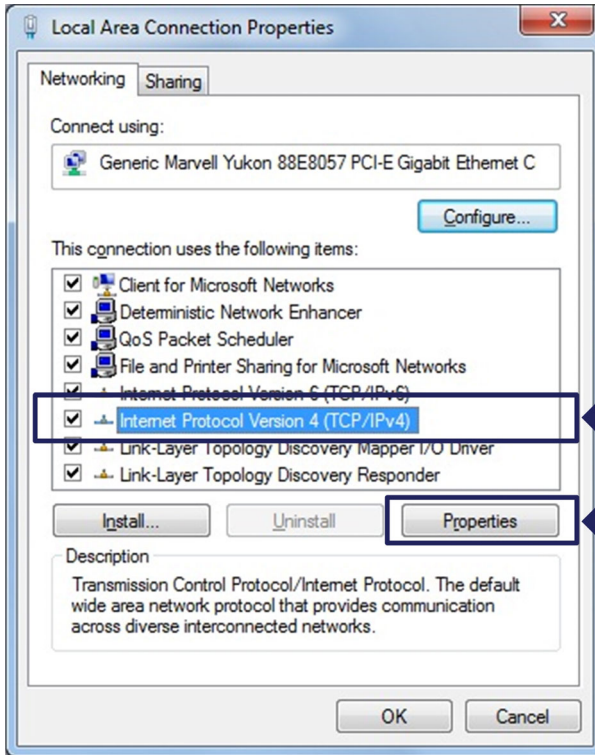

Fig. 3.8 TCP/IPv4
► Select the Internet Protocol (TCP/IP) and click on the **Properties** button (Fig. 3.8).